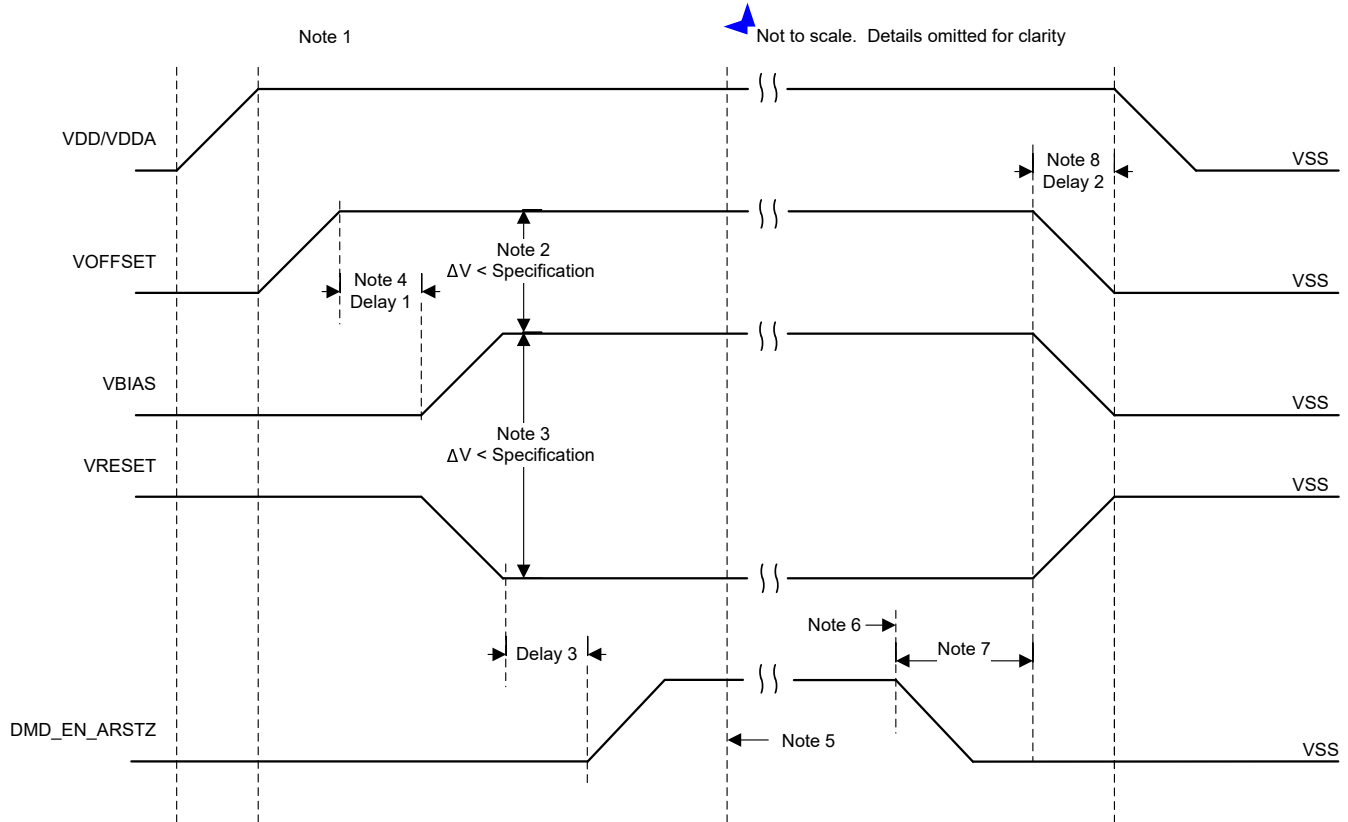

Figure 7-3. DMD Power Supply Requirements
For reliable operation of the DMD, the following power supply sequencing requirements must be followed. Failure to adhere to any of the prescribed power-up and power-down requirements may affect device reliability. See Figure 7-3 DMD Power Supply Sequencing Requirements.
(1) See Sequence Delay Requirement.
- Power supply slew rates during power-up are flexible, provided that the transient voltage levels follow the requirements specified in Section 5.1, in Section 5.4, and in Figure 7-3.
- Power supply slew rates during power-down are flexible, provided that the transient voltage levels follow the requirements specified in Section 5.1, in Section 5.4, and in Figure 7-3.